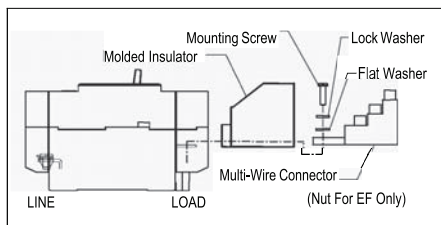

Fig. 2-1. Multi-Wire Terminal Connector Kit
- a. Tapped Terminals (Refer to Fig. 2-1):
**b. E Collar Assemblies (Refer to Fig. 2-1):**
**c. G Frame Breaker with Installed Aluminum Single Wire Connectors (Refer to Fig. 2-1):**